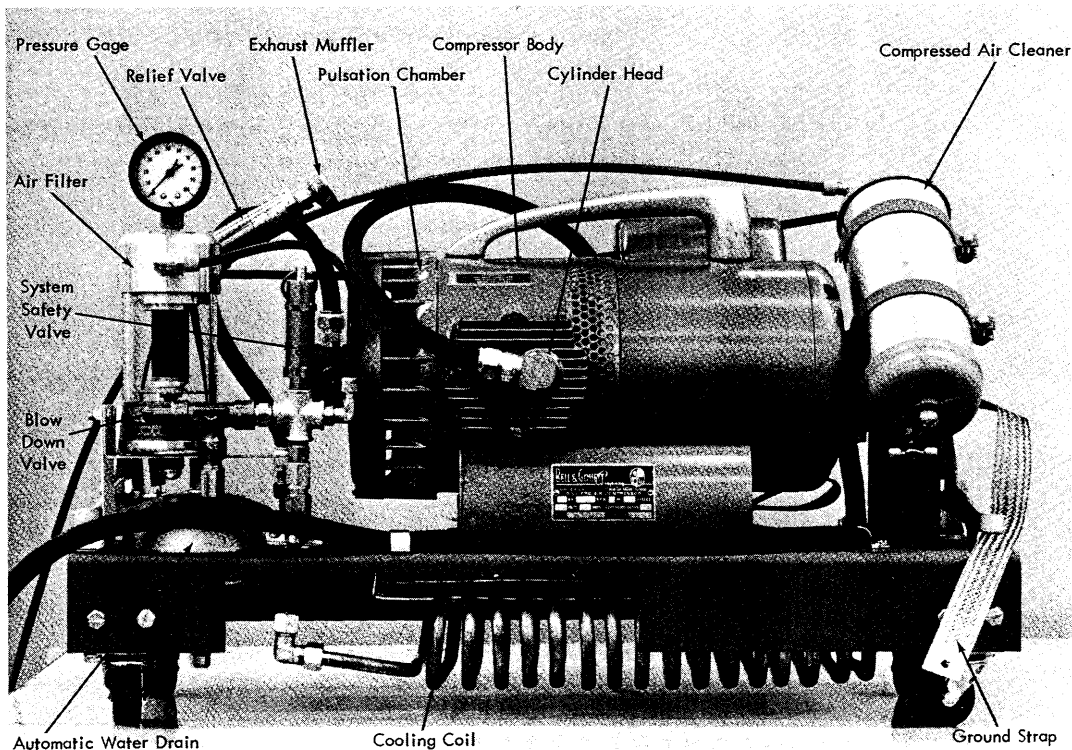

Figure 79. Bell & Gossett Air Compressor (front view)
- See Figures 79 and 80 for location of parts in air compressor unit when using these procedures.